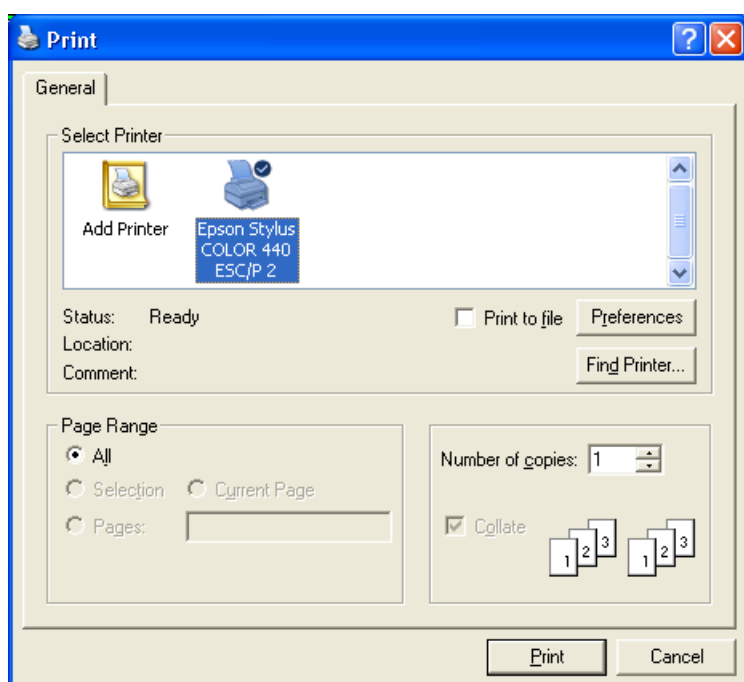

Figure 1-42 "Print" dialog box
- Choose "Print" command from "File" menu in *ELPLA-Graphic* or *ELPLA-Section* Window. The following "Print" dialog box in Figure 1-42 appears